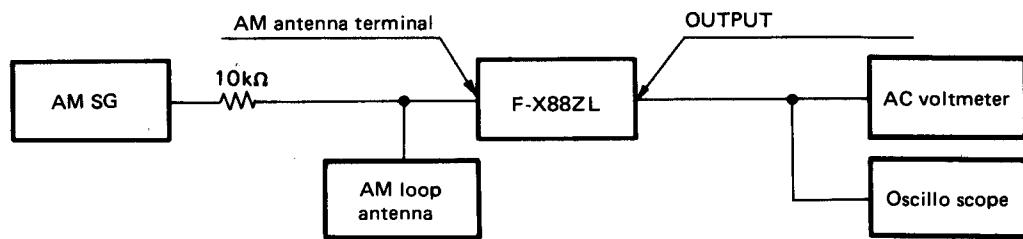

Fig. 8-3 AM Tuner Connection
- Make the connections as shown in Fig. 8-3.